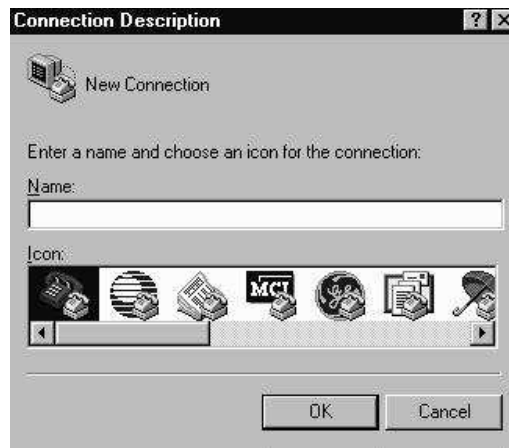

Figure 5 Enter a name for the connection
- 3: In the *Connection Description* dialog, enter any name of the connection and select the first icon in the Icon selection box; then click OK (Figure 5).